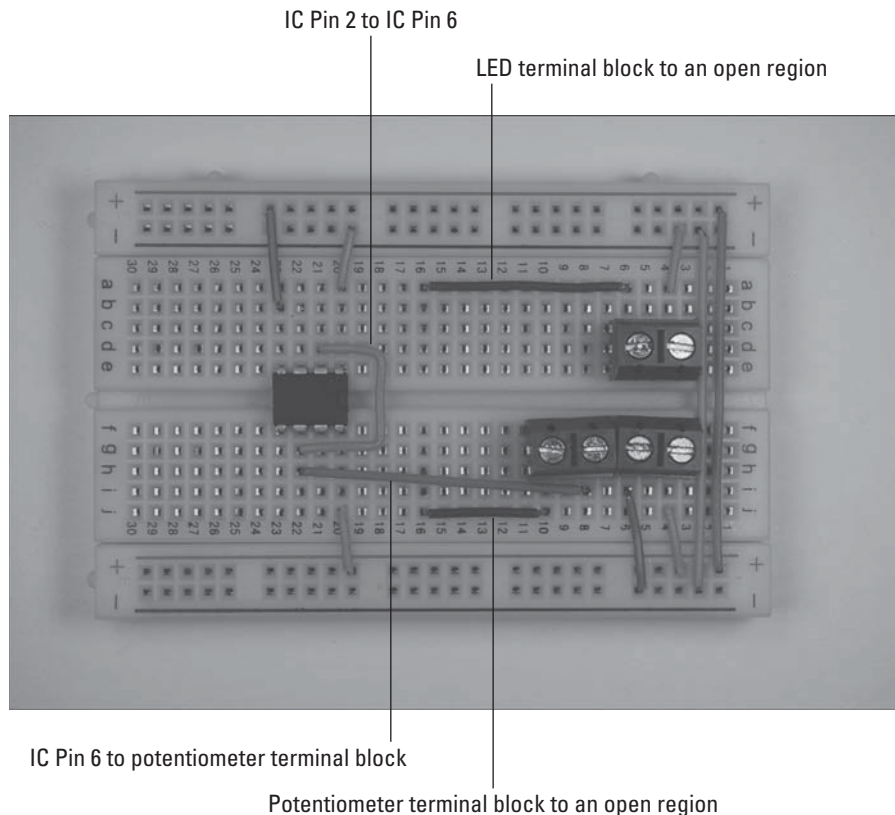

Figure 9-10: Hook up the IC, terminal blocks, and discrete components.
4. **Insert wires to connect the IC, terminal blocks, and discrete components, as shown in Figure 9-10.**